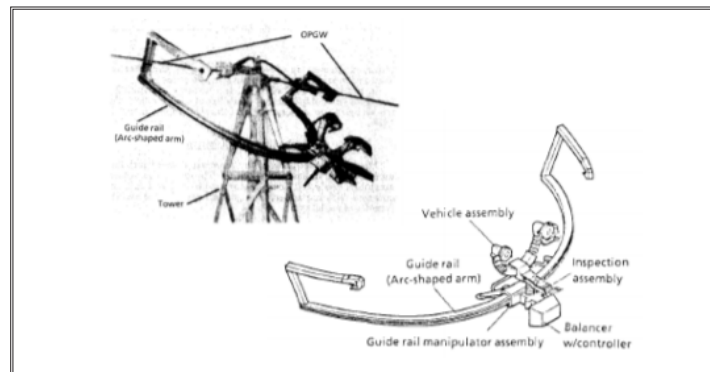

Fig 1.3
- Japan, 1990: The Tokyo Electric Power Co and Toshiba Corporation developed a mobile robot that can navigate power transmission lines unattended by human operators. The robot is designed to navigate the overhead ground wires. The most prominent feature of the robot is the 3m foldable guide rail that it uses to negotiate transmission towers, seen in Fig 1.3